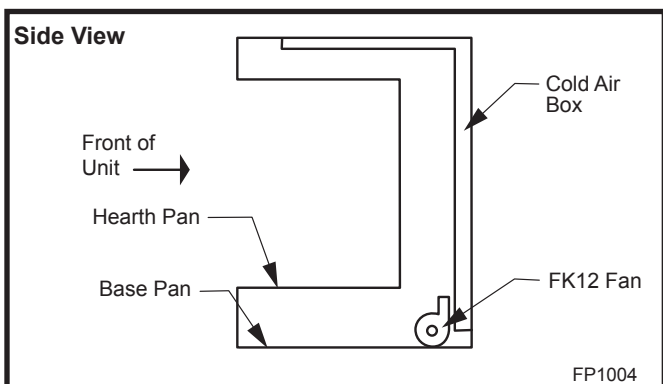

Fig. 32 FK12 Fan Kit placement.
2. Install FK12 fan in back of unit between hearth supports. (Fig. 32)